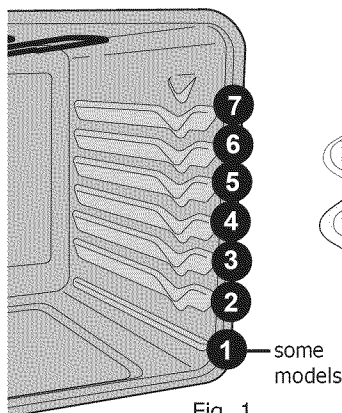

Fig. 1
- When using 2 oven racks at the same time, place in oven rack positions 2 & 4 for best results (See Fig. 1). Please note that layer cakes will have better results using the Bake function.
Use the broil feature to cook meats that require direct exposure to radiant heat for optimum browning results. When broiling always remember to arrange the oven racks while oven is still cool. Position the rack as suggested in the **broil settings table** (See Figs. 1 & 3).
6. Place the broiler pan and insert on the oven rack (See Figs. 1 & 2).